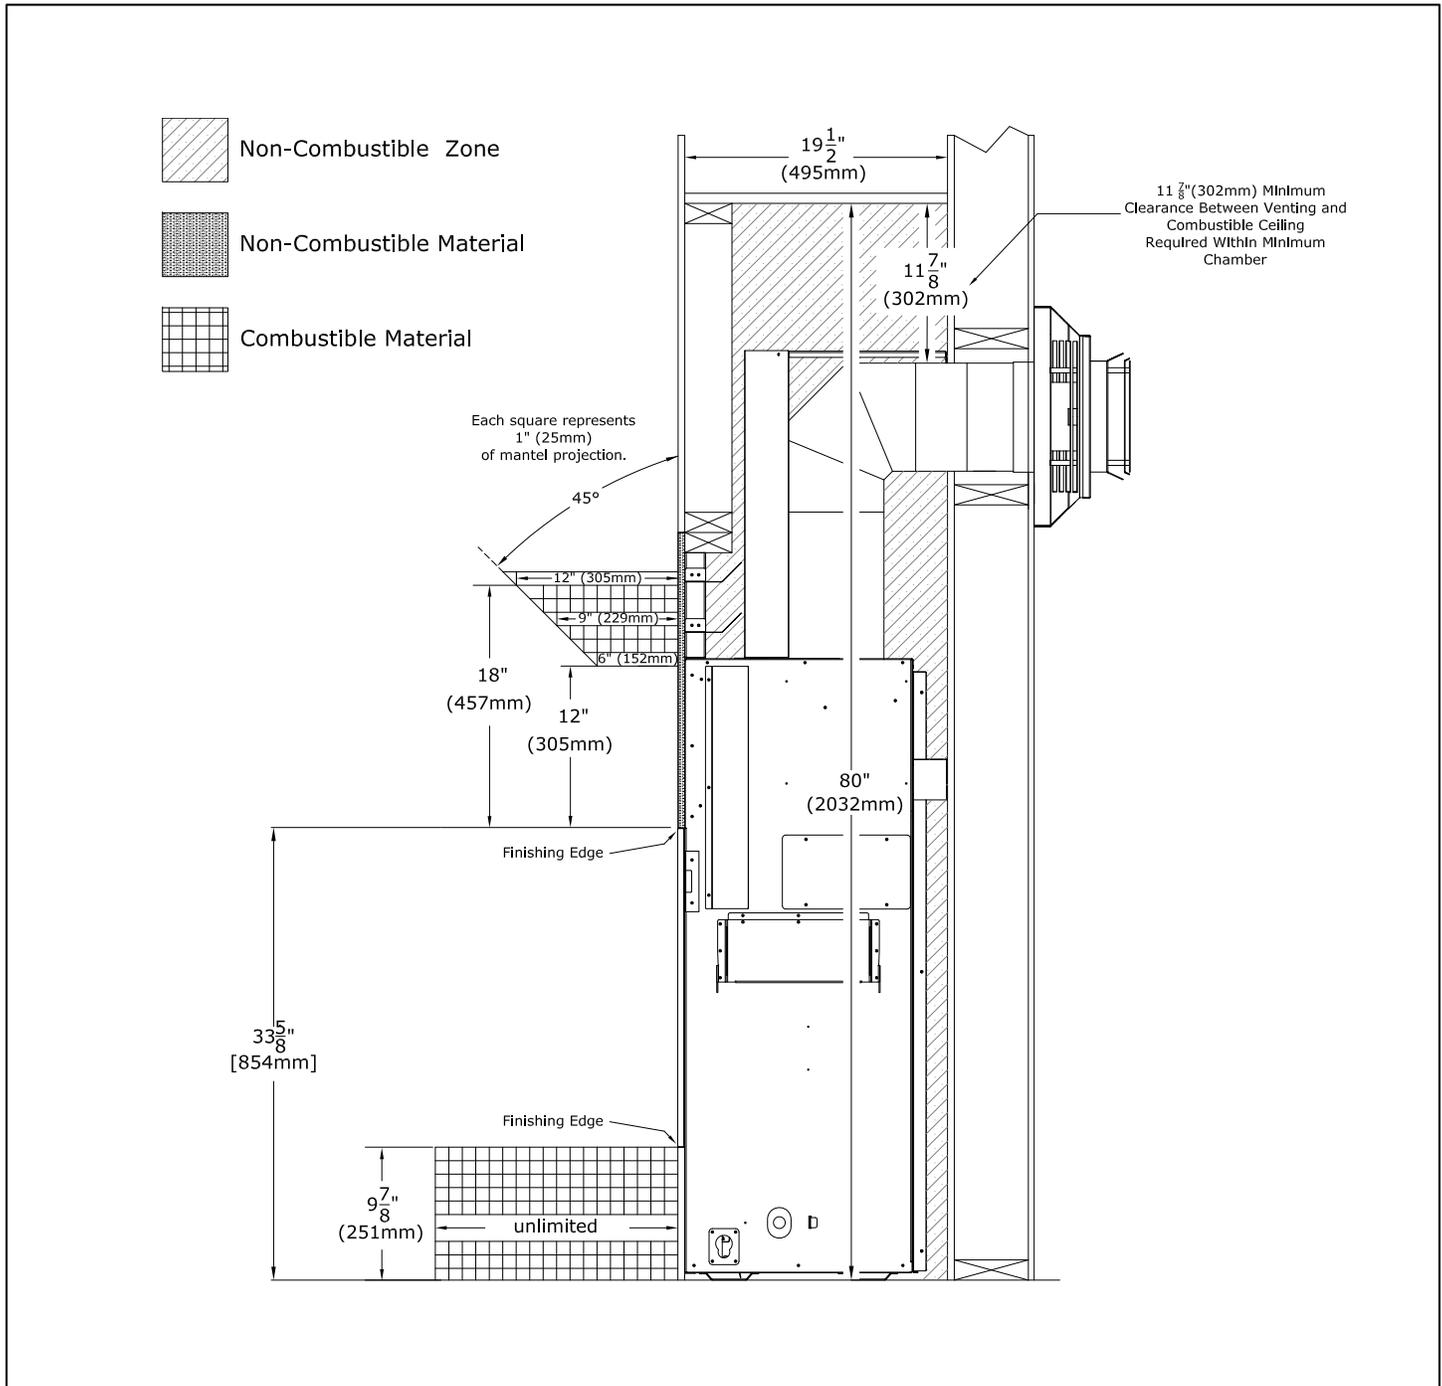

Figure 5.2 - Combustible Mantel Projections - Standard Installation
- Combustible Mantel Projections: As referenced in FIGURE 5.2 the 6" (152mm) mantel starts at 12" (305mm) above the top finishing edge. Mantel projections can increase 1" (25mm) of depth for every 1" (25mm) of height starting at the 6" (152mm) mantel.
Figure 5.2 shows a 6" (152mm) combustible mantel projection starting 12" (305mm) up from the top finishing edge of the fireplace. The dimensions shown are allowed in standard installation scenario. Mantel projections can increase 1" (25mm) of depth for every 1" (25mm) of height starting at the 6" (152mm) mantel. A combustible hearth is allowed with unlimited projection starting at 0" (0mm) from the bottom finishing edge of the fireplace.